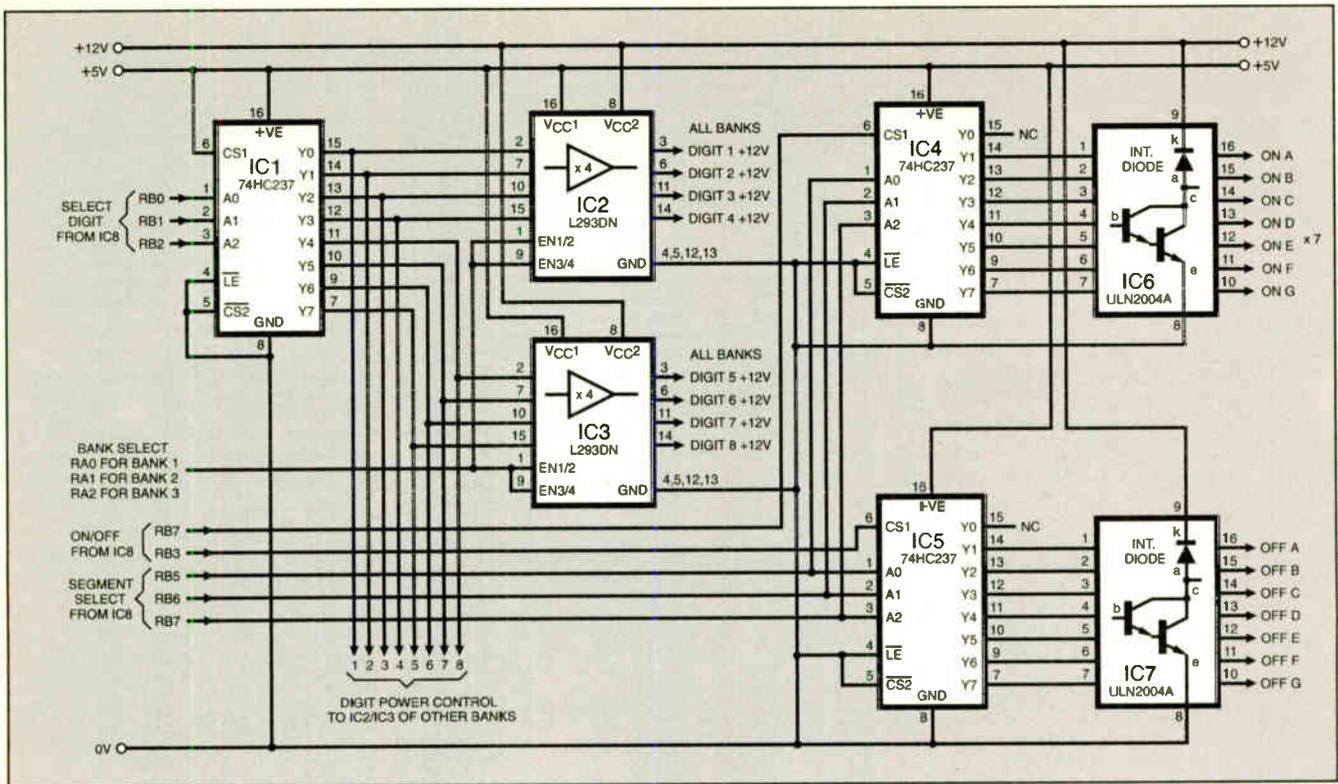
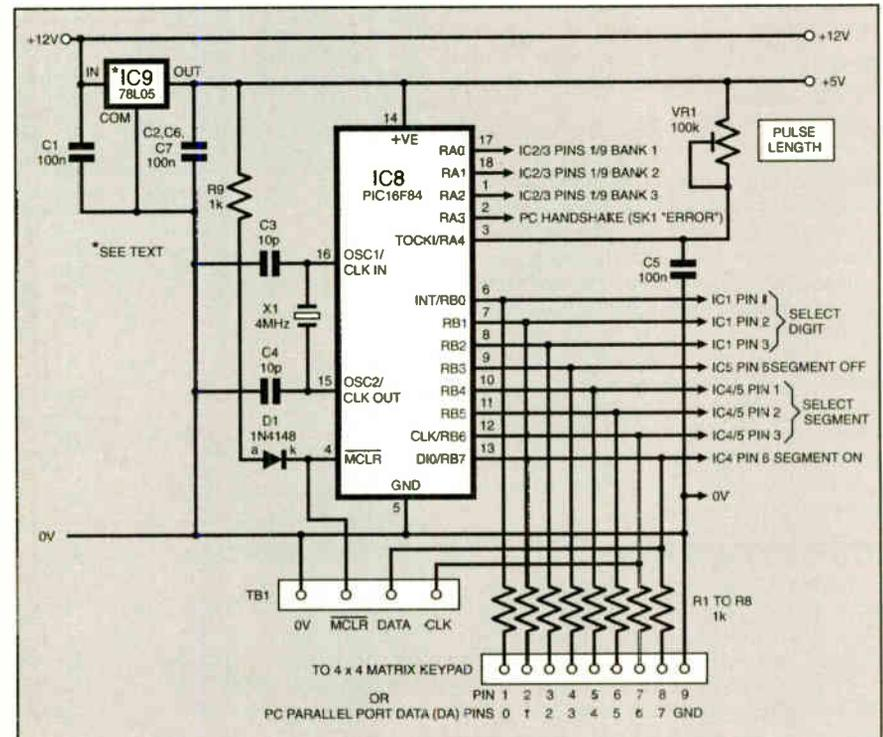

Fig.6. Circuit diagram for the multiplexed control of the digits, basically for eight, but can be modified to control 64 digits.
Fig.7. Circuit diagram showing the PIC16F84 control connections, plus power supply.
The circuit diagram showing the multiplexing and digit drive devices is given in Fig.6. Control data originates from a PIC16F84 microcontroller (discussed presently in relation to Fig.7). Through multiplexer IC1, 3-bit control data selects which digit is to be powered via source drivers IC2 or IC3.
As shown in Fig.6, and designed on the printed circuit board to be described later, eight digits (one "bank") can be controlled by these two drivers. Additional digit source drivers can be added separately if required (on stripboard for example, although no constructional details on this are offered).
Because of the multiplexing arrangement, a PIC16F84 microcontroller is readily suitable for this design, see Fig.7. It is capable of being user-controlled either via a 16-key (4 x 4) data entry keypad, or via a PC-compatible computer, running under MS-DOS or Win95/98/ME.
The PIC is run at 4MHz, as set by crystal X1. Port pins RB0 to RB2 control digit selection via IC1 (Fig.6), pins RB4 to RB6 control segment selection via IC4 and IC5, RB7 controls selection of IC4 (segment On control), and RB3 controls selection of IC5 (segment Off control).